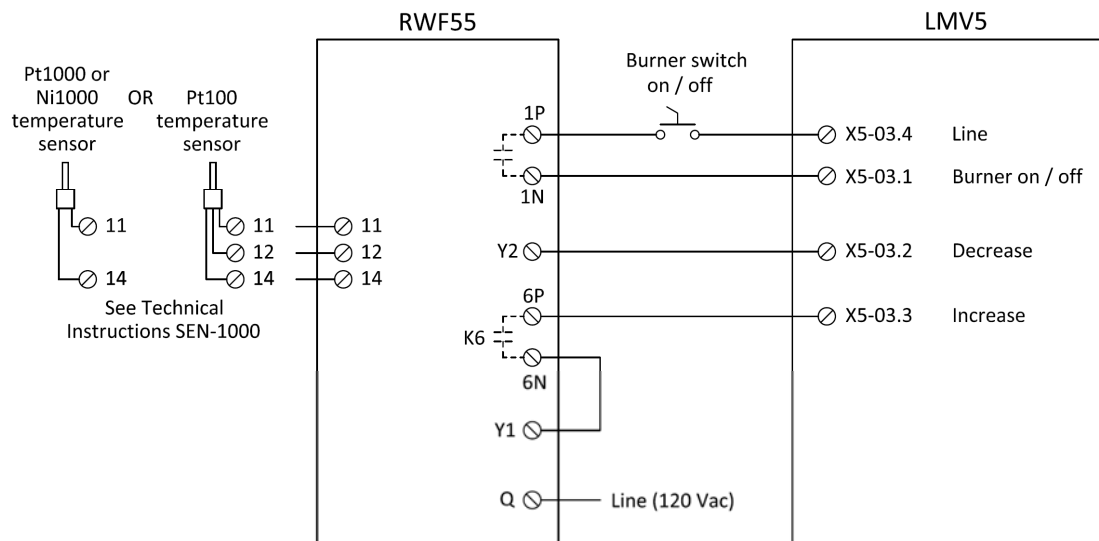

Figure 7: Low Fire Hold via 3-position Output on a Hot Water Boiler
3. Wire the LMV5 and RWF55 as shown in Figure 7: